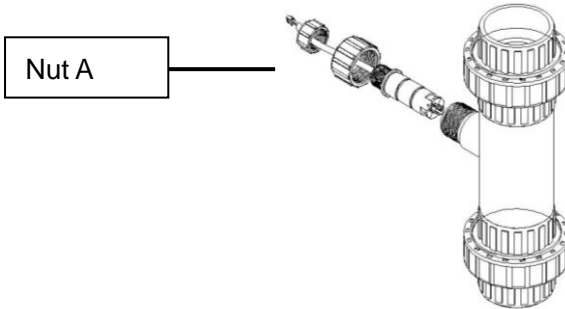

Figure1-3
B. When the flow meter stops measuring but the tested liquid still flow, it can check the work mode of probe online. Screw the probe nut A out, and check the working condition of the diode on the back of probe. If the diode always light on or off, it indicates the impeller in pipeline stop rotating. It shall stop pipeline working, release pressure in pipeline, and disassemble the probe to check if there is any foreign matter impact impeller rotating. After cleaning, if it can rotate normally by manually, and the diode works normally, it can continue to use after confirming the installation correct.(As Figure 1-3)